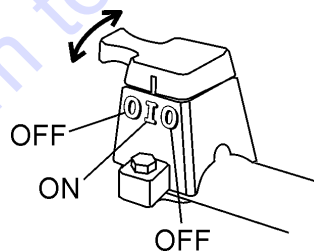

Figure 24. Engine Shutdown Switch
- Turn the **engine Shutdown switch** (next to the handle lock) (Figure 24) to the "**OFF**" position. Shutting the engine off using this switch confirms that it is functioning properly.